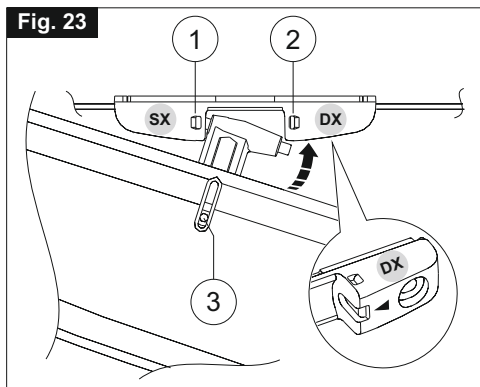

Fig. 24
- 11) **Fig. 24-** Tighten with the two standard supplied screws (**Ref. 1**) the actuator on the bracket connecting it to the window frame;